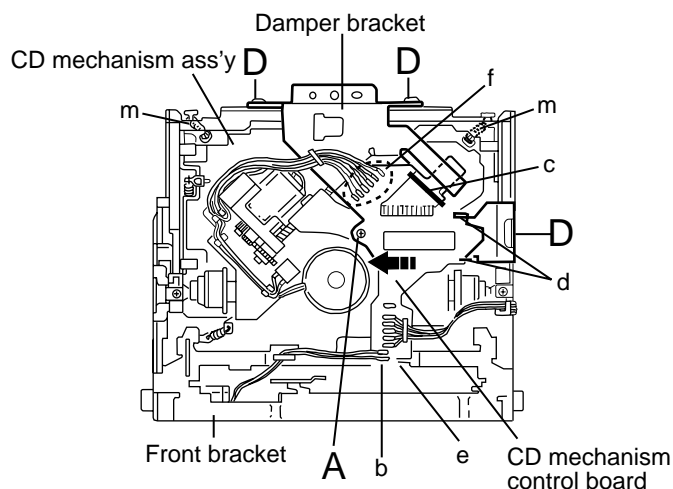

Fig.1
■ Removing the CD mechanism control board(See Fig.1 and 2)
■ Removing the CD mechanism ass'y (See Fig.1, 6 to 9)